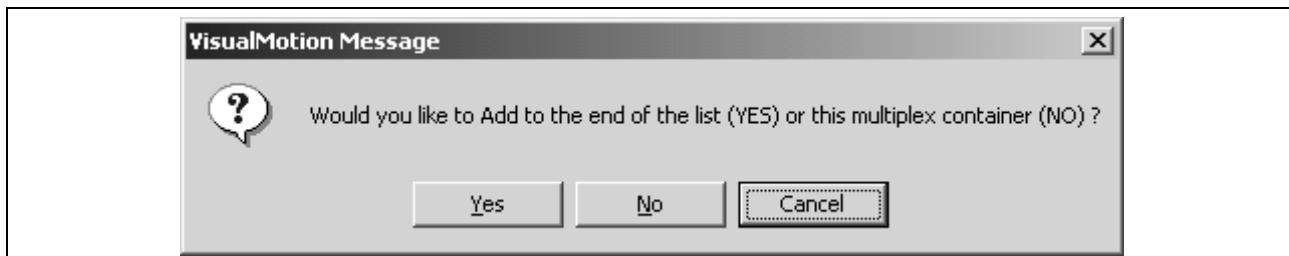

Fig. 8-14: Add Item or Multiplex Item Screen
2. Click Add. The screen in *Fig. 8-14* below appears. Because it is unclear whether you would like to add to the list or to the multiplex container, the Fieldbus Mapper is requesting clarification.